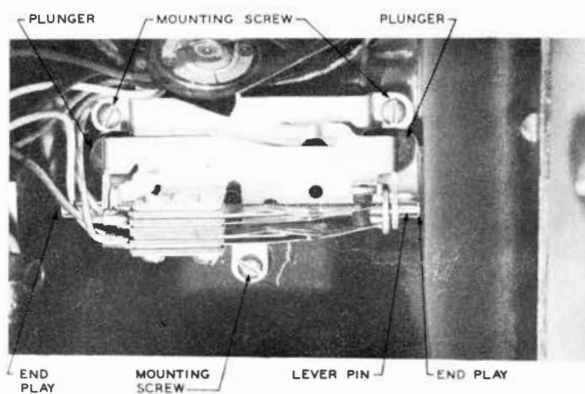

FIG. 1—PLUNGER ASSEMBLY
- If plungers bind or squeak, open set and check for sticky plungers or lever pin, or lack of end play in the set (see Fig. 1).